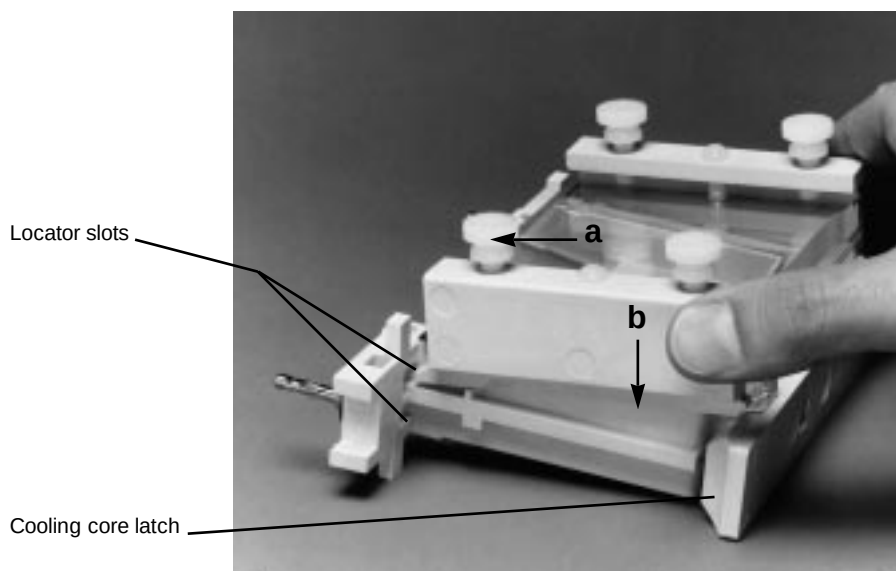

Fig 5.1
2. Lay the inner cooling core down flat on a lab bench. With the glass plates of the gel sandwich facing the cooling core (and the clamp screws facing out), carefully slide the clamp assembly wedges underneath the locator slots on the inner cooling core until the inner glass plate of the gel sandwich butts up against the notch in the U-shaped gasket (Figure 5.1).